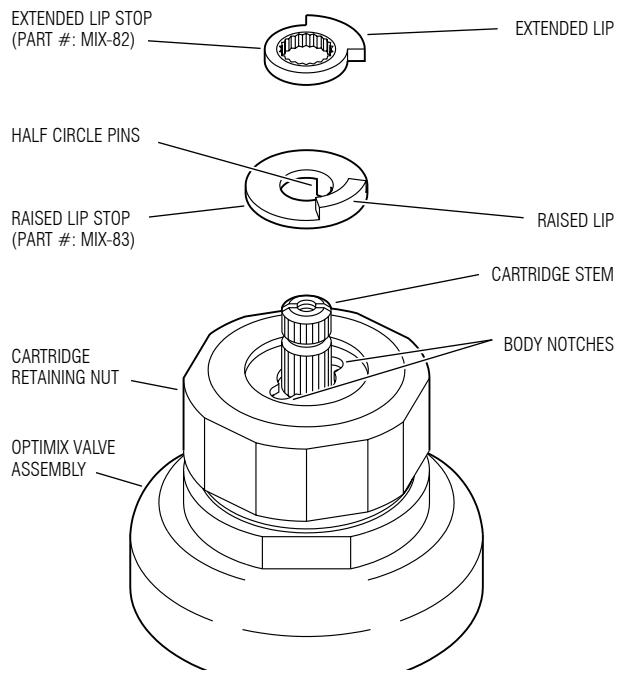

Figure 1
Step 2 — Install Raised Lip Stop (Figures 1 and 3)